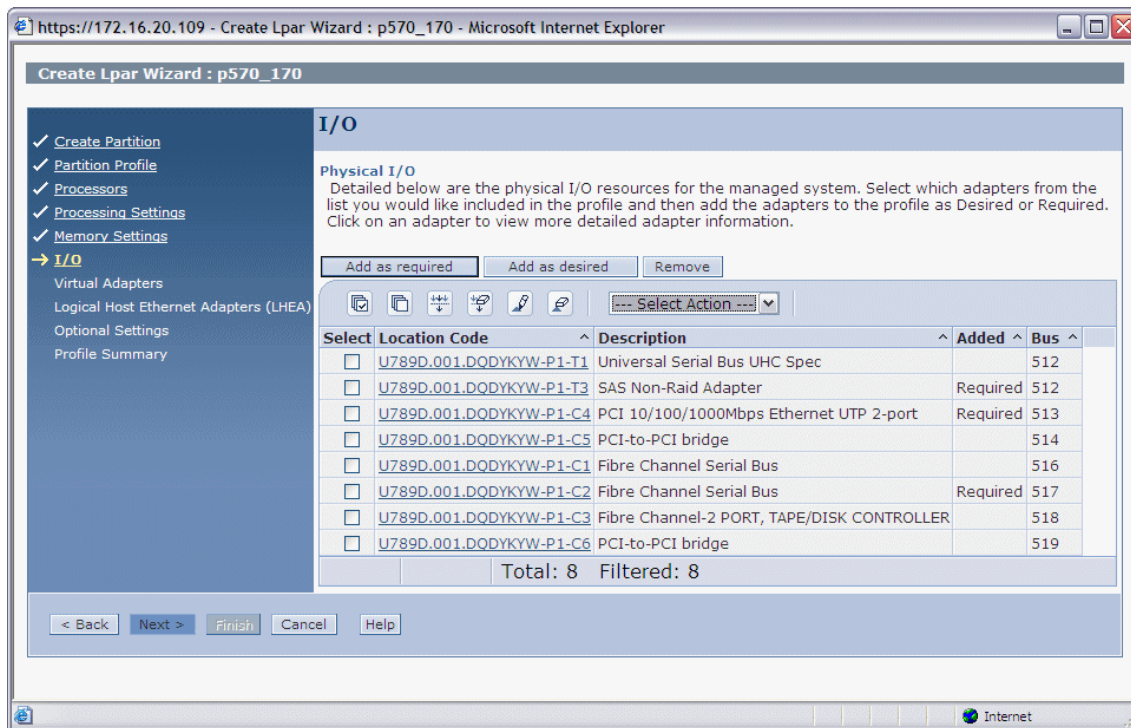

Figure 12-9 HMC Virtual I/O Server physical I/O selection for the partition
7. Select the physical I/O adapters for the partition as shown in Figure 12-9. Required means that the partition will not be able to start unless these are available to this partition. Desired means that the partition can start also without these adapters.